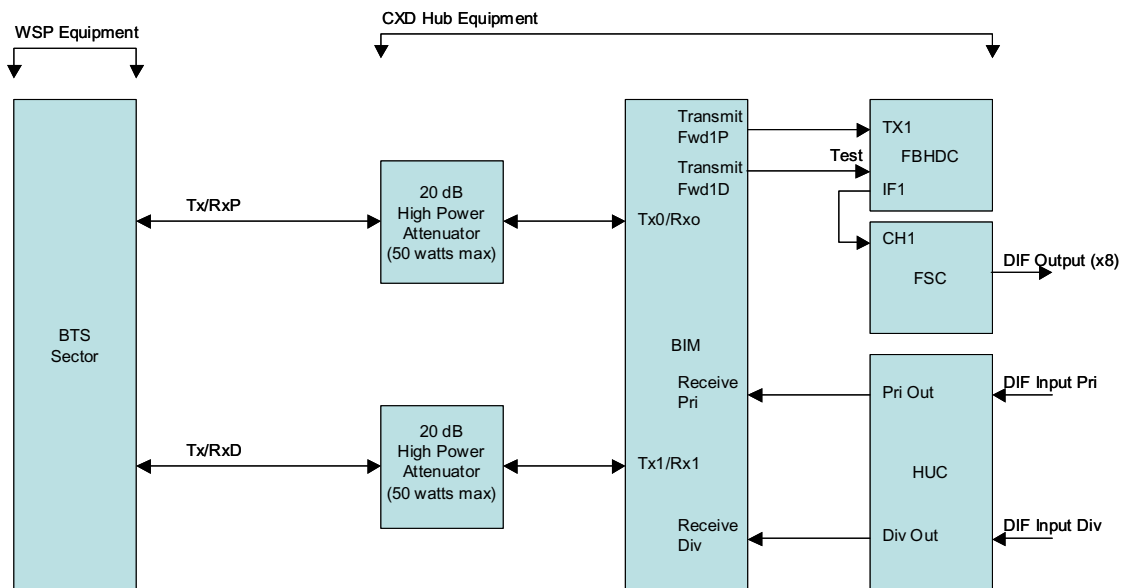

Figure 2-24. BIM Basic Configuration
1. BIM Basic – Two cable duplexed interface (see Figure 2-24).